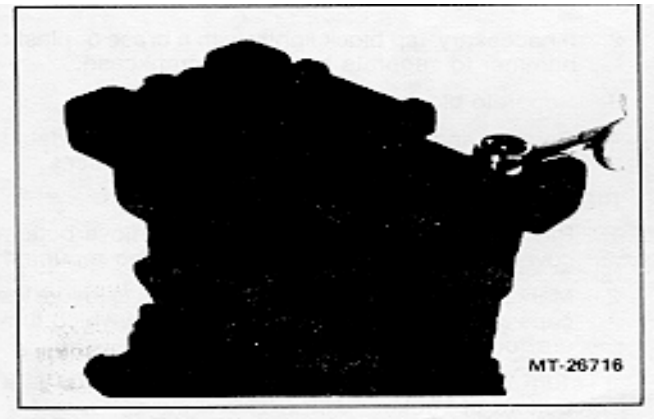

Figure 4 - Removing Cylinder Head
1. Remove six cylinder head bolts (Figure 4).